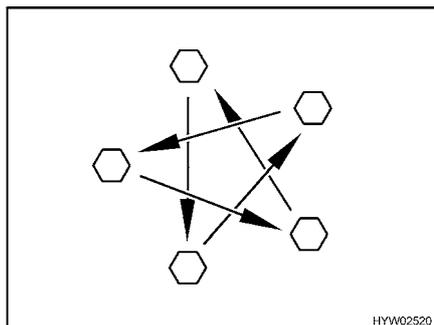

Fig. 261 Tighten the wheel nuts or wheel bolts cross-wise
- Check regularly that the wheel nuts or wheel bolts are firmly seated. Retighten the wheel nuts or wheel bolts of a changed wheel cross-wise (Fig. 261) after 50 km (30 miles). See section 13.5.2 for tightening torque.
- ▷ Tighten the wheel nuts or wheel bolts cross-wise (Fig. 261).